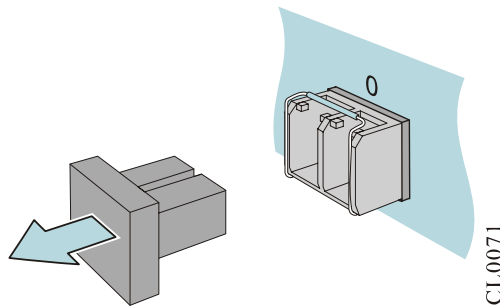

FIGURE 5-6 REMOVE DUST CAP OF SFP+ MODULE
Step 5: Remove the dust cap. The diagram of removing the dust cap of the SFP+ module is as shown in Figure 5-6